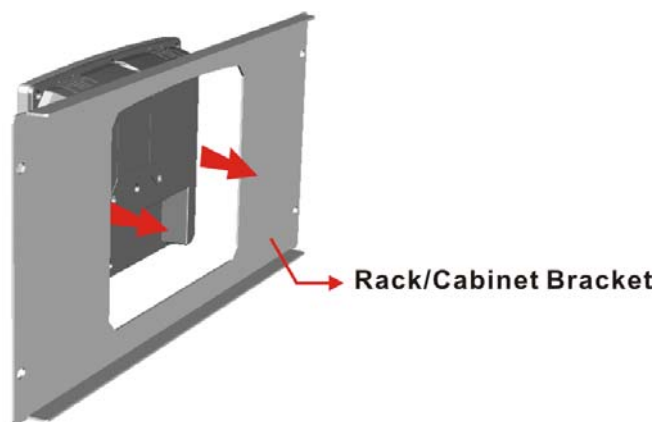

Figure 3-20: The Rack/Cabinet Bracket
Step 1: Slide the rear chassis of the AFL LX series flat panel PC through the rack/cabinet bracket until the aluminum frame is flush against the front of the bracket (**Figure 3-20**).